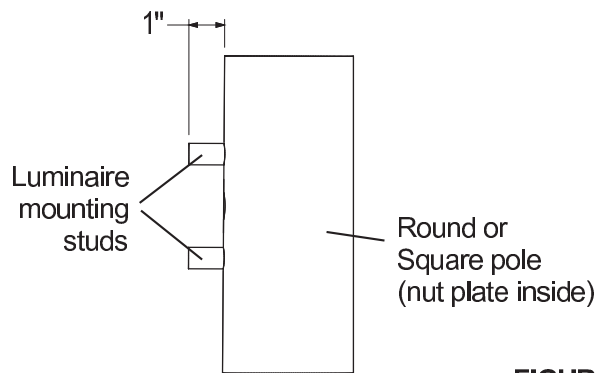

FIGURE 4
4. Mounting studs should extend out of pole 1". See Figure 4.